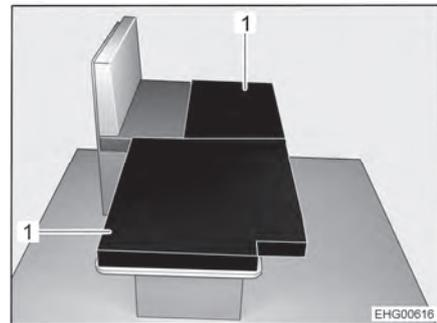

Fig. 53 After conversion
- Place the two additional cushions (Fig. 53,1) on the lowered table as shown in the image.